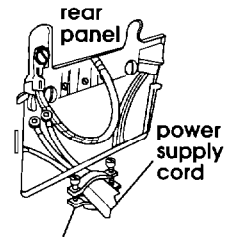

Figure 15
3. Attach 3/4" U.L.-listed strain relief (U.L. marking on strain relief) to the hole below terminal box opening (see Figure 15). Tighten strain relief firmly to cabinet so it is in a horizontal position. Place power supply cord through strain relief.